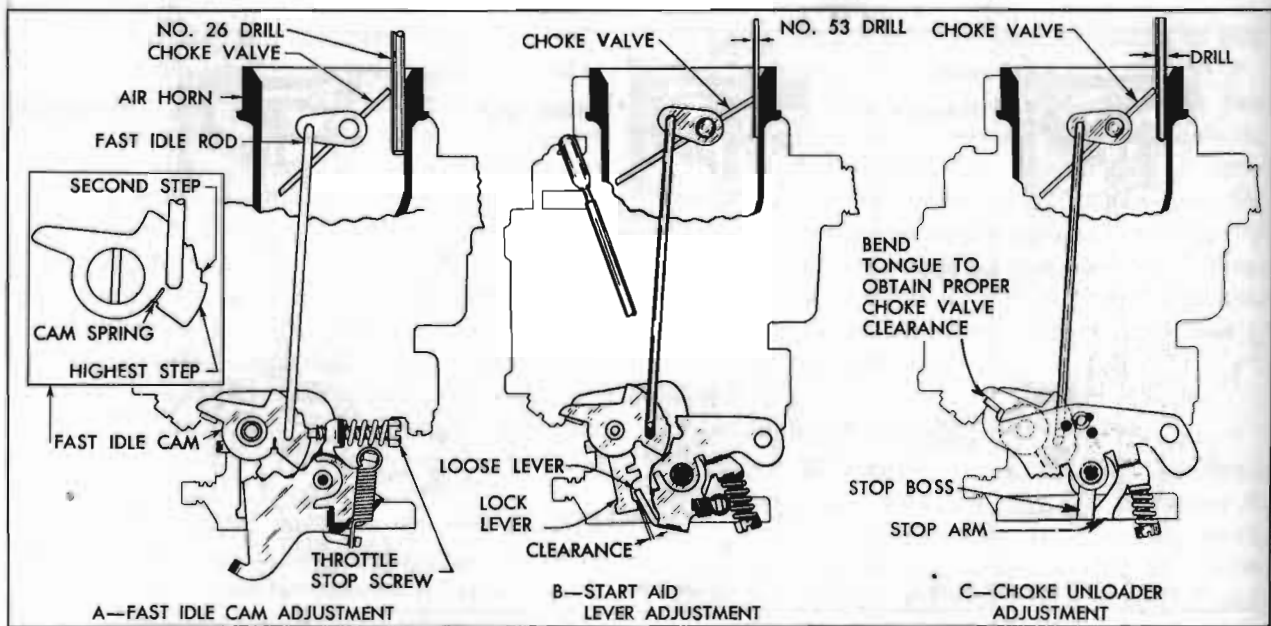

Figure 3-66—Fast Idle Cam and Choke Unloader Adjustments
If the engine becomes flooded for any reason, the choke valve can be partially opened by depressing accelerator pedal to the full extent of its travel. This causes a tongue or arm on the throttle lever to contact and rotate the fast idle cam, which forces the choke valve open. See figure 3-66(C).
2. Place a No. 26 drill between wall of air horn and the center of upper edge of choke valve, and hold valve firmly closed against the drill. See figure 3-66(A).
3. Make sure that the fast idle cam spring holds the cam up against end of fast idle rod, then close the throttle until stop screw contacts the fast idle cam. The screw should just clear the edge of the highest step of cam and bear against second step, as shown in figure 3-66(A).
5. Remove the No. 26 drill and place a No. 53 drill at the same point, then hold choke valve firmly closed against drill. See figure 3-66(B).
6. Slowly open and close throttle valve several times and check clearance between the start aid loose lever on throttle stem and the lock lever behind the fast idle cam as indicated in figure 3-66(B).
retor or a No. 2 drill on 4-barrel (Series 70) carburetor. Bend the tongue on throttle lever as required to obtain specific clearance. See figure 3-66 (C).